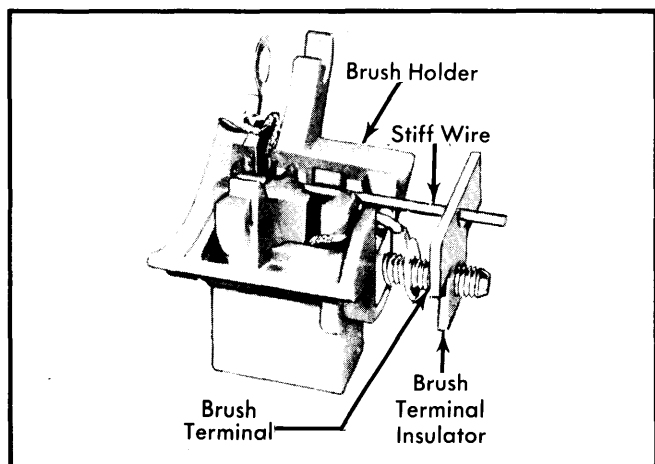

Fig. 8 Assembled View of Brush Holder Assembly
3) If rear housing bearing was removed, support housing on inner boss and press a new bearing flush with outer end surface. Place brush springs, brushes, brush terminal and terminal insulator in brush holder. Hold brushes in position by inserting small piece of stiff wire in brush holder. Position brush holder assembly in rear housing and install mounting screws. Position brush leads in holder. See Figs. 8 and 9.